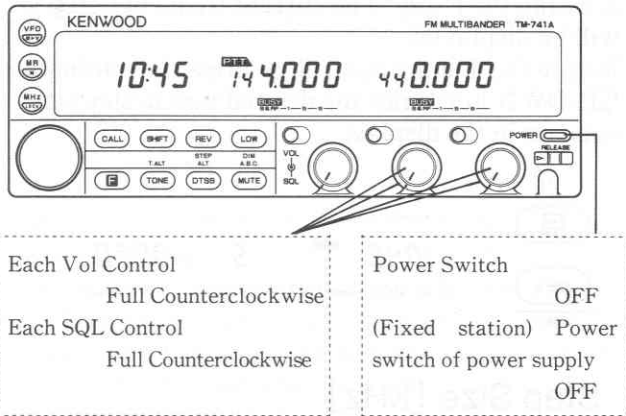

Fig.1
2. Turn on the Power Supply, then turn on the transceiver's POWER switch. The display should light after 1 second. Fig.1 shows examples of frequencies that will appear on the various models. The frequencies shown above are the default frequencies after a microprocessor reset. If the display shows incomplete data or you think the displayed frequency is in error you should reset the microprocessor. (Memory Initialization on page 29)